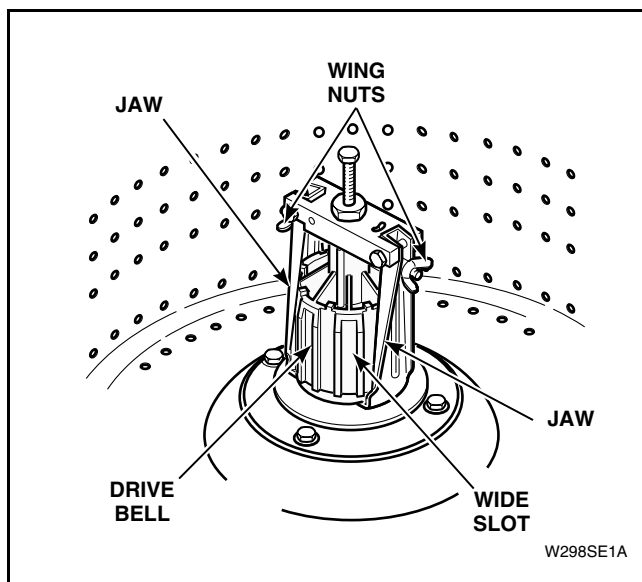

Figure 31
- f. Place tool over drive bell, making sure indent on jaws line up with wide slots on drive bell. Refer to *Figure 31*.
- h. Place lip of each jaw under bottom edge of drive bell, making sure indent on jaws line up with wide slots on drive bell. Tighten wing nuts on tool to hold jaws firmly against drive bell. Refer to *Figure 31*.